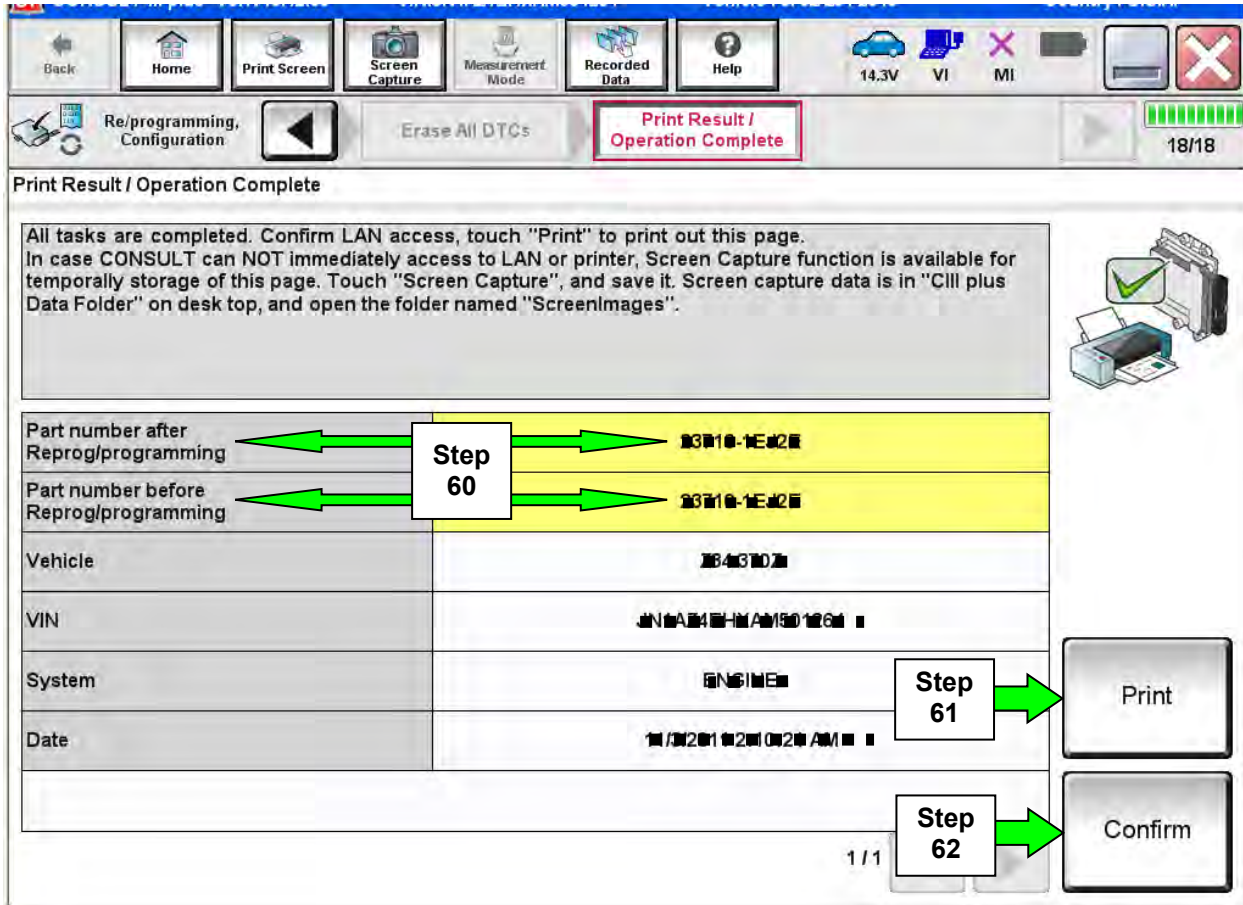

Figure 35
61. Print a copy of this screen (Figure 35) and attach it to the repair order.